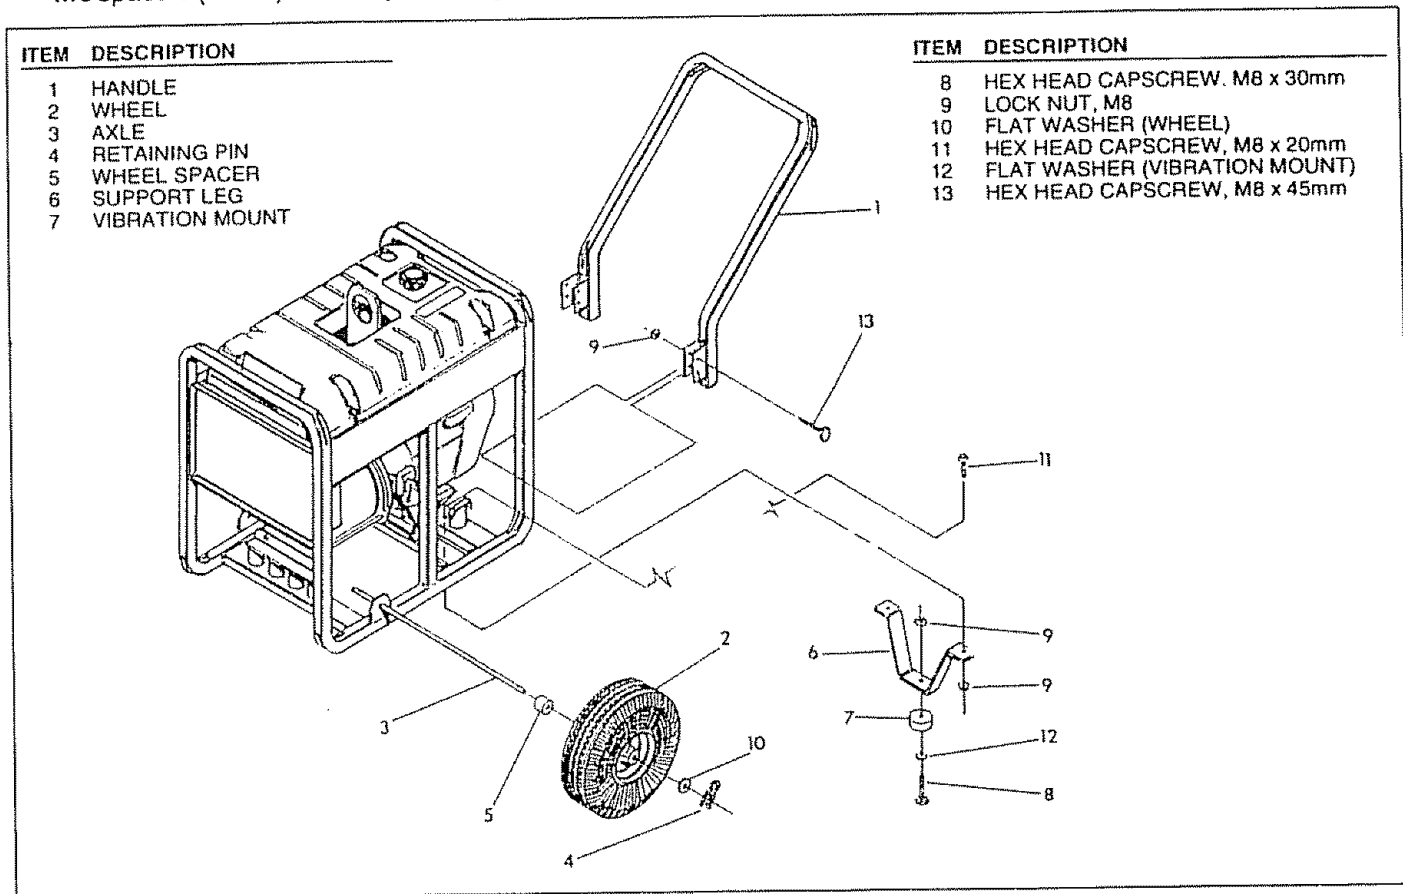

FIG. 1
- Slide axle (Item 3) through holes in the brackets provided on the generator cradle (Fig. 1) and then add the two spacers (Item 5) on each protruding end of the axle